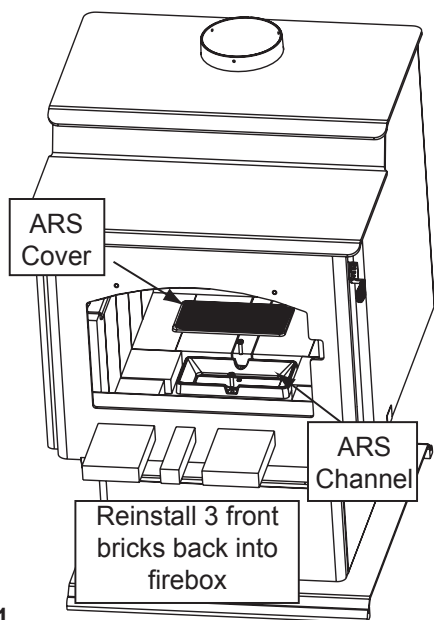

Figure 18.1
5. Replace front 3 bricks that were removed in step 1 (**Figure 18.1**).
7. Install ARS access cover inside of ARS Channel that is located inside the firebox (**Figure 18.1**).